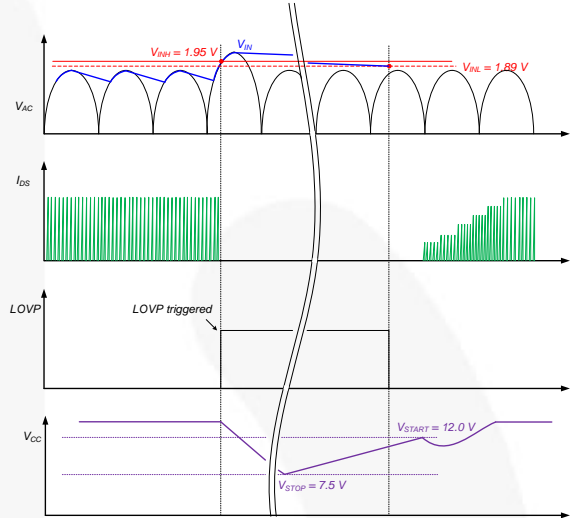

**Figure 24. Output-Short Protection**
**4.3. Output-Short Protection (OSP):** If the output is shorted, steep current with extremely high di/dt can flow through the SenseFET during the minimum turn-on time. Such a steep current creates high-voltage stress on the drain of the SenseFET when turned off. To protect the device from this abnormal condition, OSP is included. It is comprised of detecting  $V_{FB}$  and SenseFET turn-on time. When the  $V_{FB}$  is higher than 2.0 V and the SenseFET turn-on time is lower than 1.0  $\mu$ s, this condition is recognized as an abnormal error and PWM switching shuts down until  $V_{CC}$  reaches  $V_{START}$  again. An abnormal condition output short is shown in Figure 24.